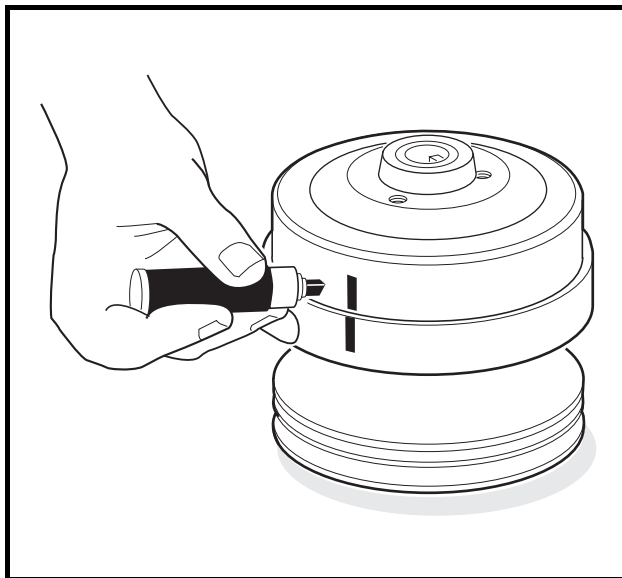

Figure 17-6 Mark Drive Clutch Hub
- The drive clutch is balanced as an assembly. Before disassembly, make match marks on the drive clutch hub and on the moveable face assembly so they can be reassembled in the same positions (Figure 17-6, Page 17-7).
1. Make match marks on the drive clutch hub and on the moveable face casting (Figure 17-6, Page 17-7).